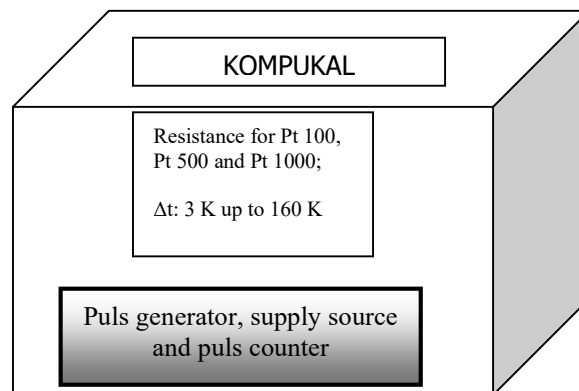

Fig 3: Kompukal: testing device for heat meter calculators.
- **Kompukal** in fig. 3. for testing and calibration of calculators of heat meters.